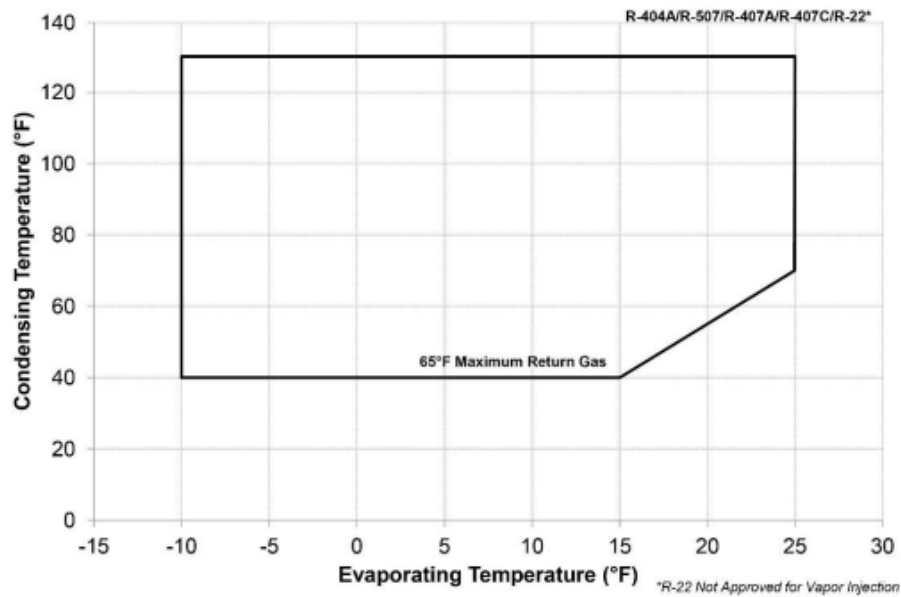

Figure 20 - ZF*K5E (Excluding ZF49K5E), ZF25KVE
* For ZF25KVE and ZF28KVE operating envelope see Figure 20
* For ZF25KVE and ZF28KVE see Figure 20 for operating envelope.